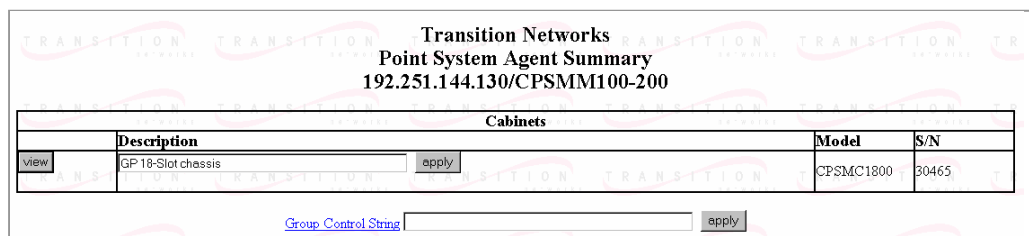

Figure 38: Chassis Agent (MMU) Main Menu
5.	Press the ENTER key to launch the chassis agent’s main menu, shown in Figure 38.